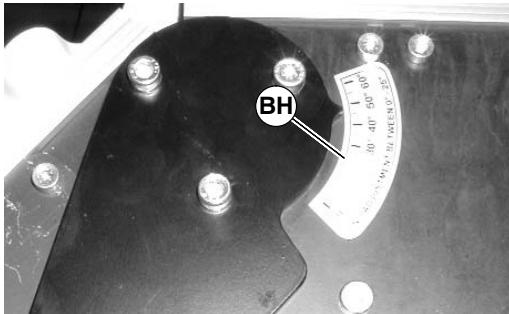

Figure 48
4. Move conveyor to desired angle as indicated by angle label (BH of Figure 48).